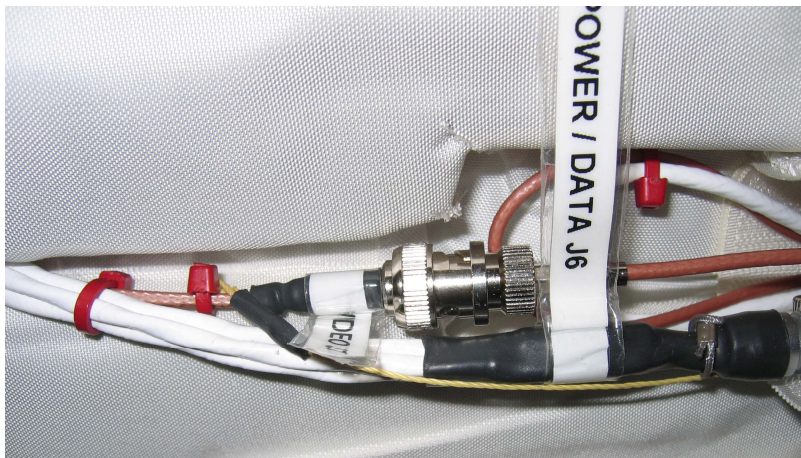

Figure 4: CSI Cables
- 2.6 Disconnect CSI-01 cables from CGBA along right side panel of CGBA (ref Figure 4)